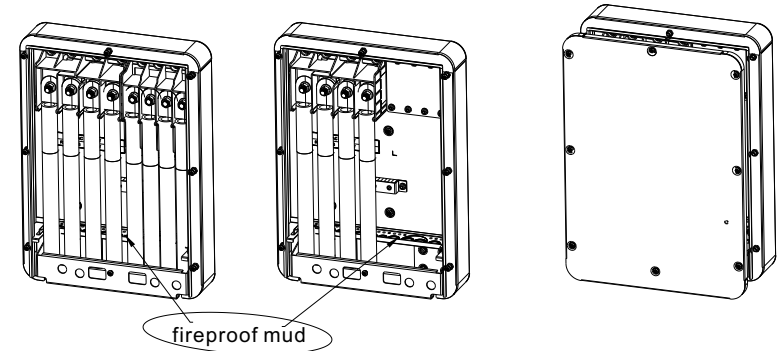

Fig 6.4 Applying fireproof mud
4. After connecting the cables, apply fireproof mud to the waterproof silicone mat at the inlet side. Lock the cover of the AC junction box after the fireproof mud is applied. See Fig 6.4 below.